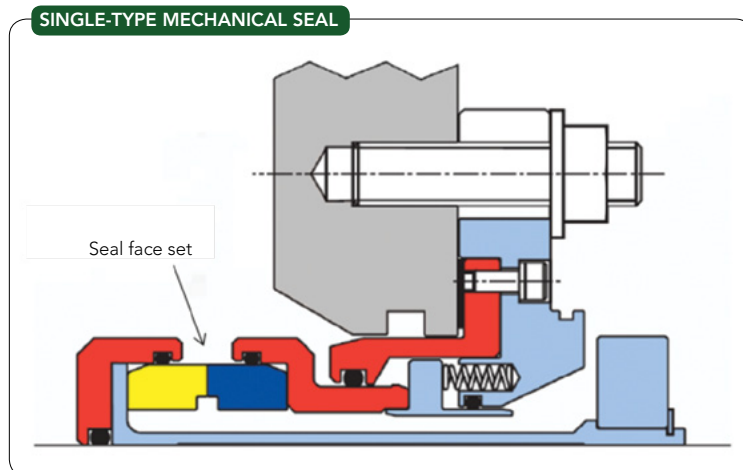
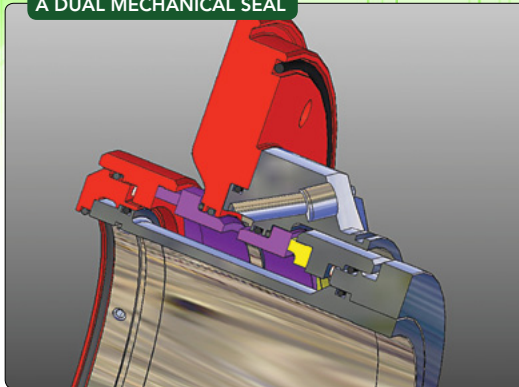

Figure 1. This type of heavy-duty unit often handles lime slurry services.
Figure 2: The space between the sleeve and the inside diameter of the two sets of seal faces is filled with a pressurized barrier fluid — usually clean water.
**IN THE** 1990s, slurry-sealing trends moved strongly from braided packing toward single-type heavy-duty mechanical seals. Still, mechanical seals often are among the first components to fail; whenever fine abrasive slurries can migrate into the seal faces, the performance of mechanical seals becomes especially unpredictable. Yet, virtually all modern process plants place great importance on reliable mechanical seals. Facilities experiencing repeat failures may find that better slurry seals now available enable effective remedial action. For mild slurries, single-type heavy-duty mechanical seals with springs located away from the pumpage (as illustrated in Figure 1) often suffice. For more difficult slurry services, best-in-class companies typically specify dual seals (Figure 2).
Figure 2 depicts a dual pressurized seal design. The inboard set of seal faces contains the process slurry or impure pumpage; a secondary barrier fluid (clean water) is pressurized higher than the process stream. An outboard set of seal faces confines the clean barrier fluid. The higher pressurization means the secondary barrier forms the inboard-seal-face fluid film. Seal face failure risks normally originating with micron-size-range particle contaminants are mitigated because the seal-face operating environment is clean water at a stable pressure.